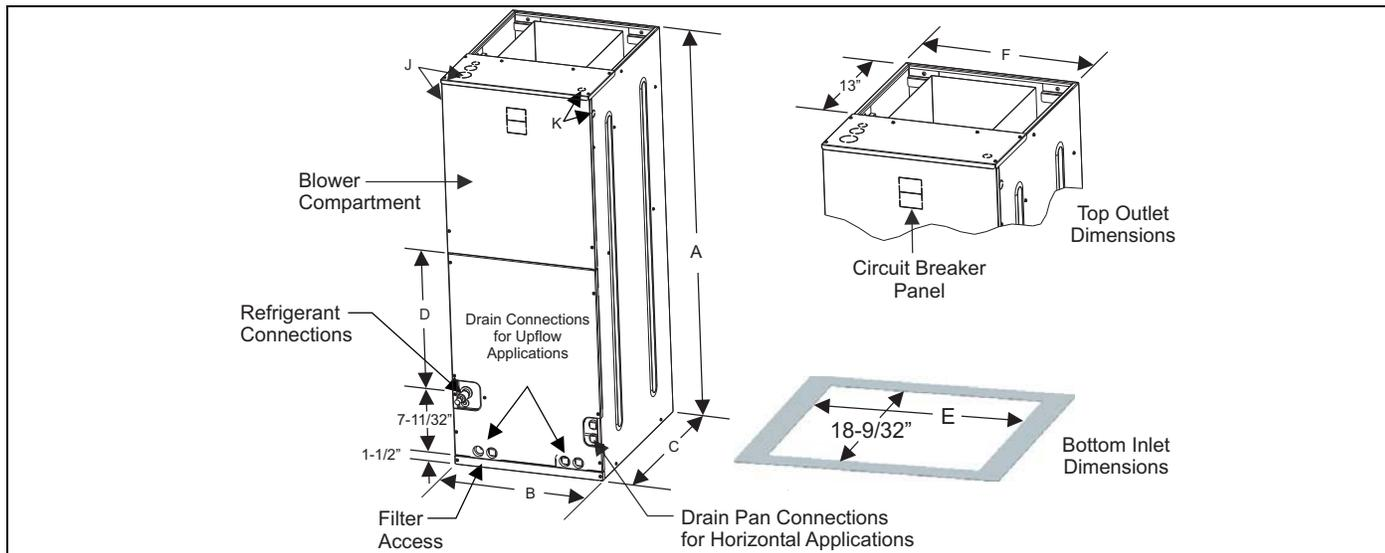

FIGURE 2: Dimensions & Duct Connection Dimensions
2. Refer to the unit rating plate for the air handler model number, and then see the dimensions page of this instruction for supply air plenum dimensions in Figure 2. The plenum must be installed according to the instructions.
For both horizontal applications, the condensate deflector should be positioned as shown in Figure 2.
Air supply and return may be handled in one of several ways best suited to the installation. See Figure 2 for dimensions for duct inlet and outlet connections.
The supply air duct should be properly sized by use of a transition to match unit opening. All ducts should be suspended using flexible hangers and never fastened directly to the structure. This unit is not designed for non-ducted (freeblow) applications. Size outlet plenum or transition to discharge opening sizes shown in Figure 2.
Air filters must be field supplied. A 1" filter access rack has been built into the unit. See Figure 2. Remove filter access cover shown. Install proper size filter. Standard 1" size permanent or throw away filter may be used, or, permanent washable filters are available using model numbers: 1PF0601, 602 or 603BK. See Table 2 for filter size.